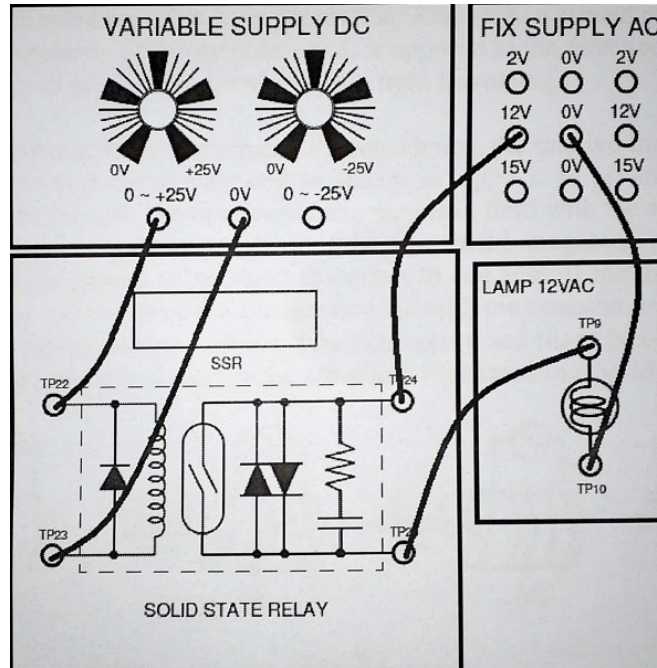

Figure 4.5: Connection Diagram of Solid State relay
8. Construct the circuit as shown in the Figure 4.5.
9. Connect the variable power supply to the terminals (TP22 and TP23) as shown in the Figure 4.5.